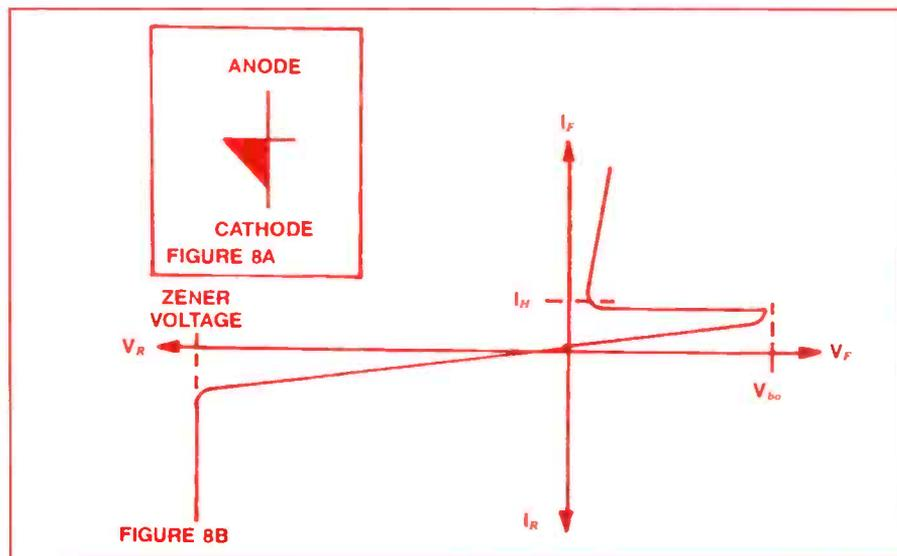

Figure 2. What electronic component does this symbol (8A), which has a characteristic curve as shown in 8B, represent?
4. The symbol in Figure 2 is for a _____.